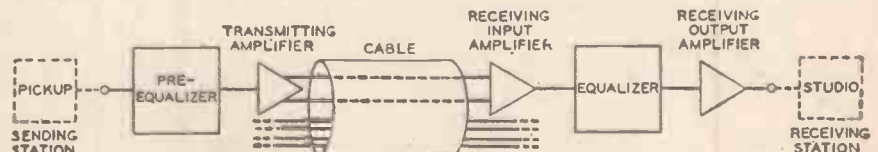

Fig. 5.—Schematic circuit layout for the recent television experiment.
C.B.S. television experiment is indicated schematically in Fig. 5. Amplification and equalisation were provided at both ends of the circuit. The effect of the equaliser at